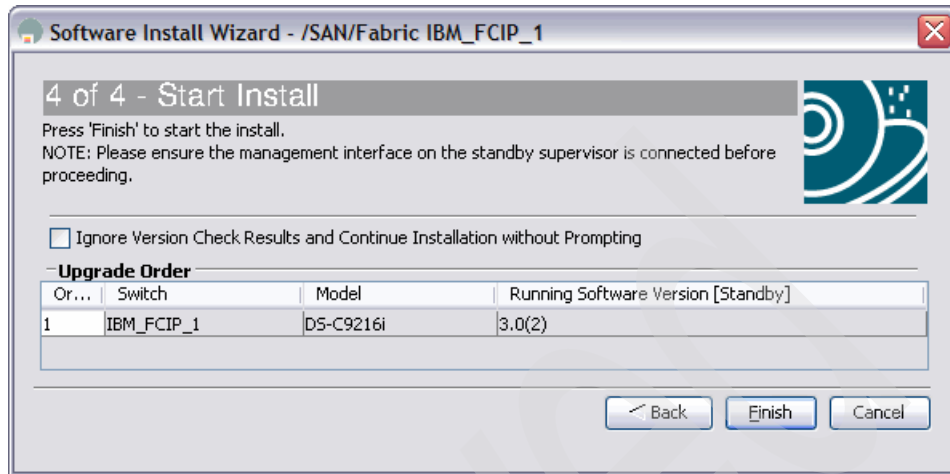

Figure 11-22 FM software update 4 of 4
11. In panel 4 of 4 (Figure 11-22), verify the contents, and click **Finish**.